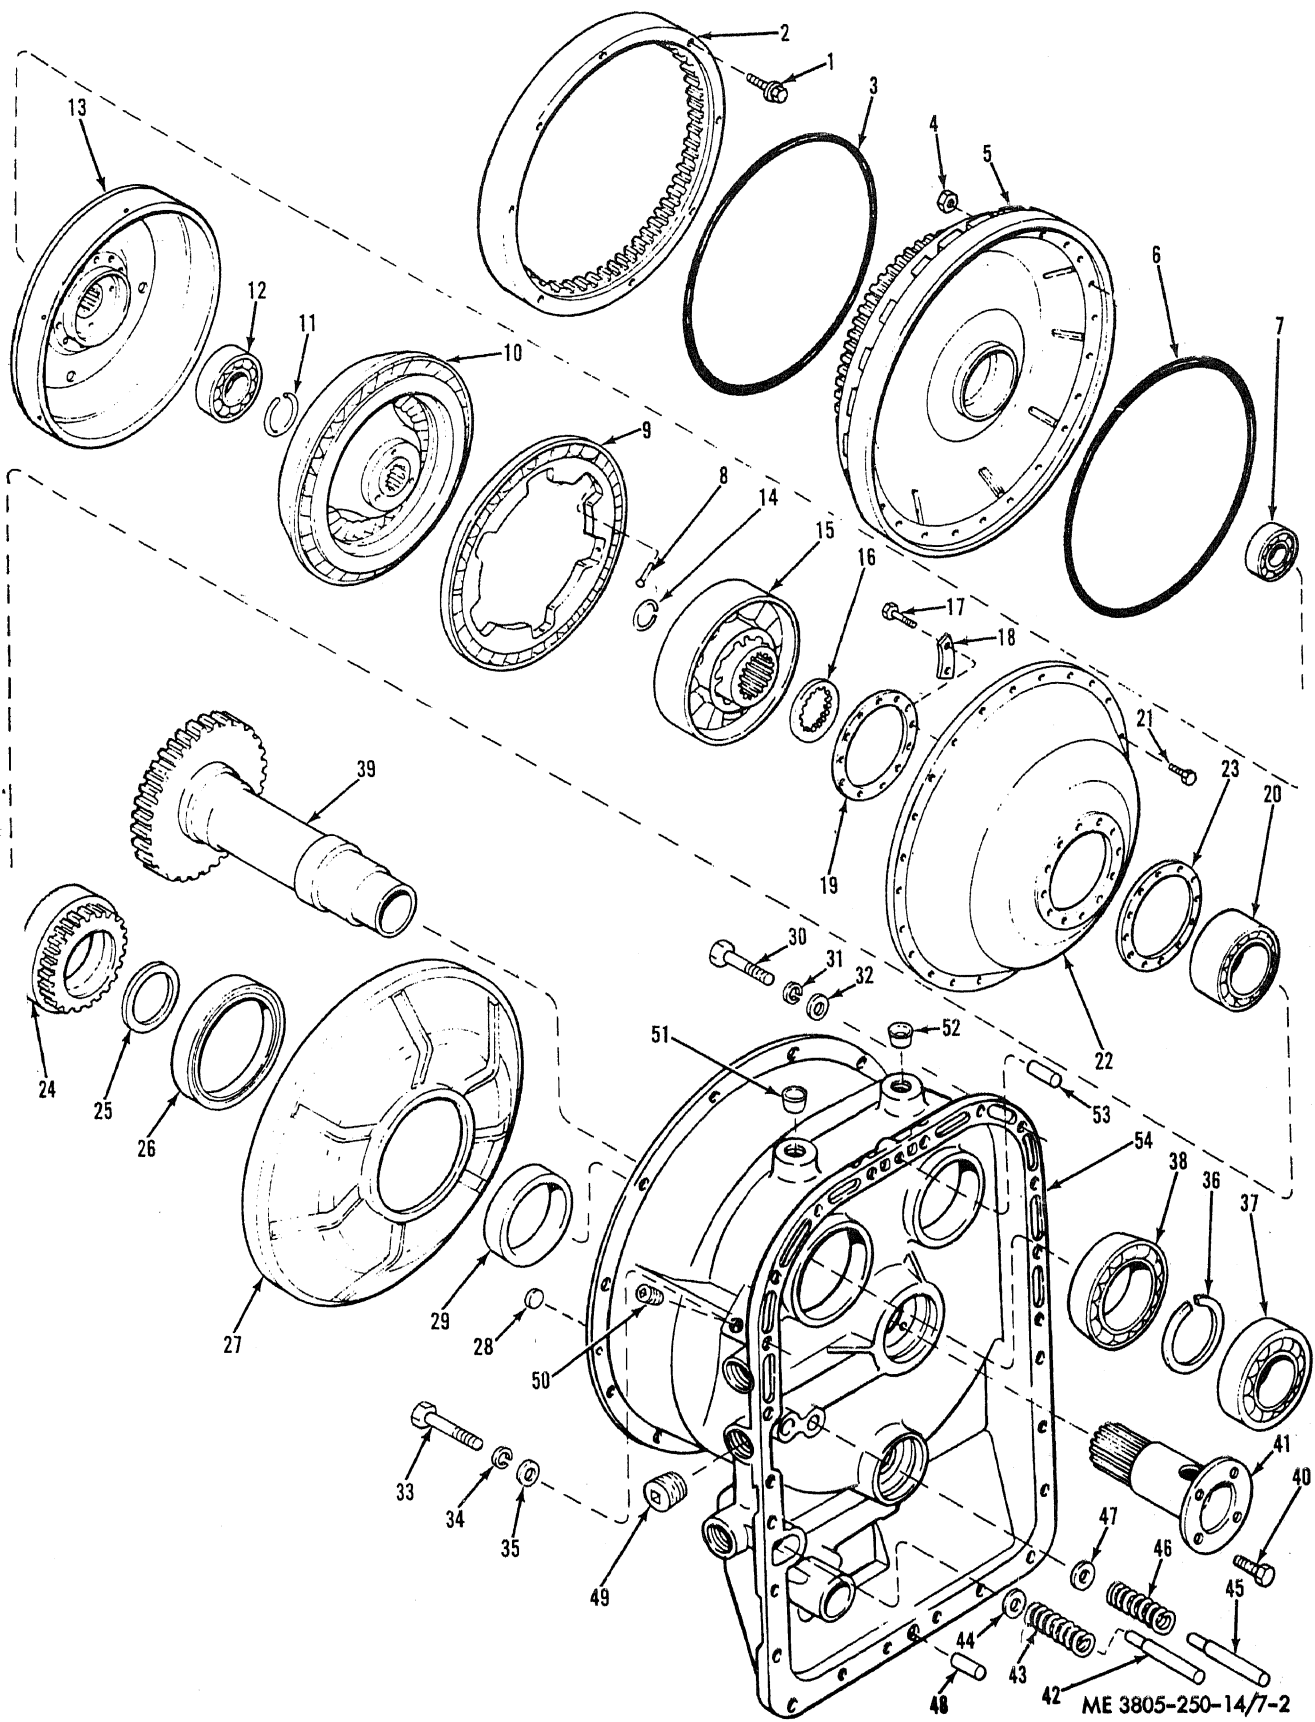

Figure 7-2. Torque converter, exploded view.
b. Disassembly. Refer to figure 7-2.
KEY to fig. 7-2:
(3) Remove burrs, scratches and light scoring from machined surfaces with a soft honing stone or crocus cloth. Replace any damaged or badly worn parts. Replace worn or damaged bearings. Replace all gaskets and seals.
d. Reassembly. Refer to figure 7-2.
(1) Install dowel pins (48 and 53), if removed. Press pins in housing (54) until they project 0.440 ± 0.010 inch above the housing surface.
(2) Install plugs (28, 49, 50, 51 and 52) if they were removed. Press plugs (51 and 52) into the housing until they are a minimum of 0.03 inch below the surface. Drive plug (28) flat side first into its bore until it seats against the shoulder in the bore.
(3) Assemble lubrication regulator valve (44) and spring (43) to pin (42). Press the pin into the housing until it is flush to 0.010 inch below the housing surface.
(4) Assemble the pressure regulator valve (47), and spring (46) to pin (45). Press the pin into the housing until it projects 1.19 ± 0.01 inch above the valve seat.